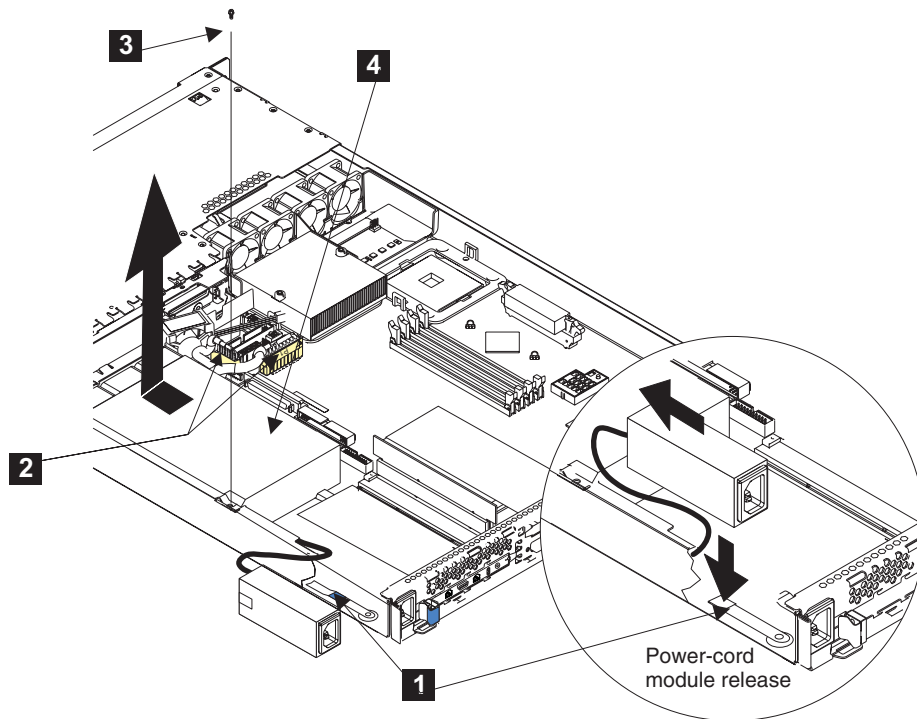

Figure 125. Removing the SAN Volume Controller 2145-4F2 power supply
5. Press down on the clip **1** at the front of the power-cable module, as shown in Figure 125 on page 140, and slide the module toward the front of the SAN Volume Controller 2145-4F2 until the alignment tab is free of the slot that is on the side of the SAN Volume Controller 2145-4F2.